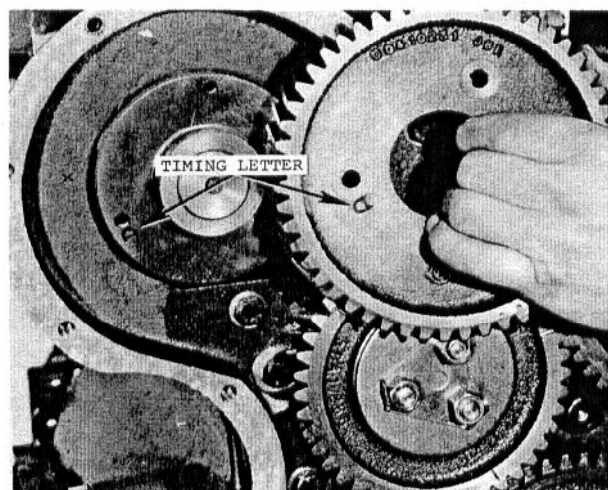

Fig. 20 — Removing or Installing Camshaft Gear
2. Remove capscrews and washers and remove the camshaft gear as shown in Fig. 20.
4. Install camshaft gear onto camshaft, aligning the timing letter ("D") as shown in Fig. 20.